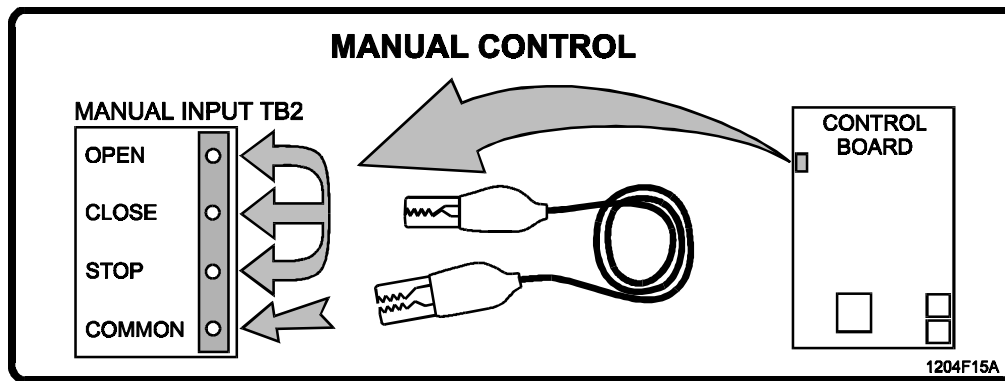

Figure 5. Manual Controls, Location and Use.
2. On Manual Input Terminal TB2, connect the STOP terminal to the COMMON terminal (see Figure 5).
If necessary, use the manual controls on Manual Input Terminal TB2 (OPEN, CLOSE, and STOP, as shown in Figure 5), to move the gate arm during system installation.
3. Using the manual controls (Figure 5), initiate gate opening, then stop the gate about one foot short of its fully open position.